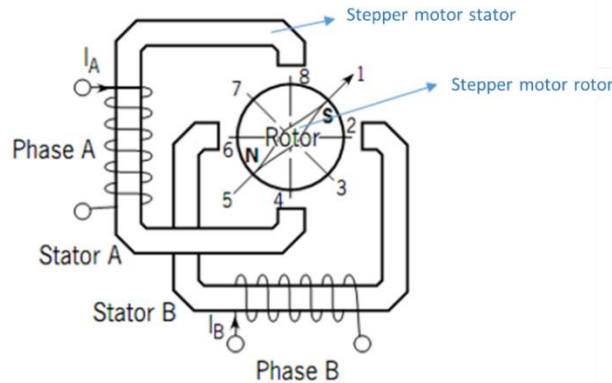

Figure 6: Simplified Schematic of a Bipolar Stepper Motor
The bipolar stepper motor's structure can be simplified to better understand the subsequent control methods (see Figure 6).
1. When phase A is driven, the drive current flows from Q1 to Q4. During this time, the upper end of stator A is at N, the lower end of stator A is at S, and the rotor turns to position 8 (see Figure 6).
2. Next, phase B is driven, and the drive current flows from Q5 to Q8. One end of stator B is S, the other end of stator B is N, and the rotor turns to position 2 (see Figure 6).